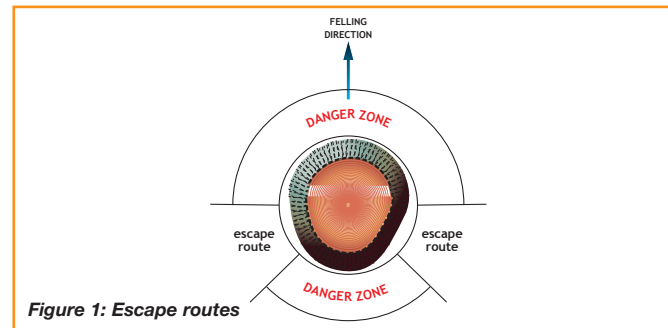

Figure 1: Escape routes
- ❑ 8 Decide the direction of fall and select a suitable escape route (see *Figure 1*). Ensure the escape route is clear of obstructions.